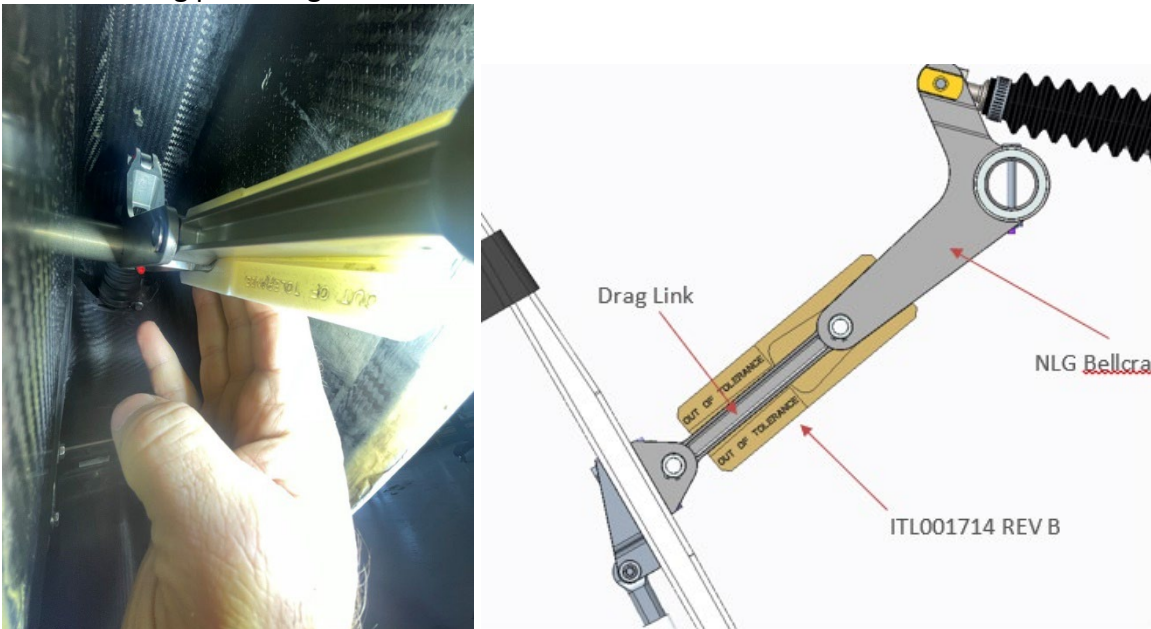

Figure 2. ITL001714
1.0 configuration NLG parts are not compatible with rig pins. Instead, ITL001714 can be used to verify rig. To use ITL001714, fit the curved opening over the bellcrank, as shown in **Figure 2**.